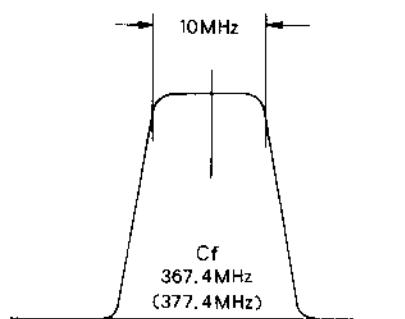

Figure 6
- c) Adjust TC_{3007} , TC_{3008} , TC_{3009} , TC_{3010} , TC_{3011} and TC_{3012} until the scope pattern illustrated in Figure 6 is achieved.